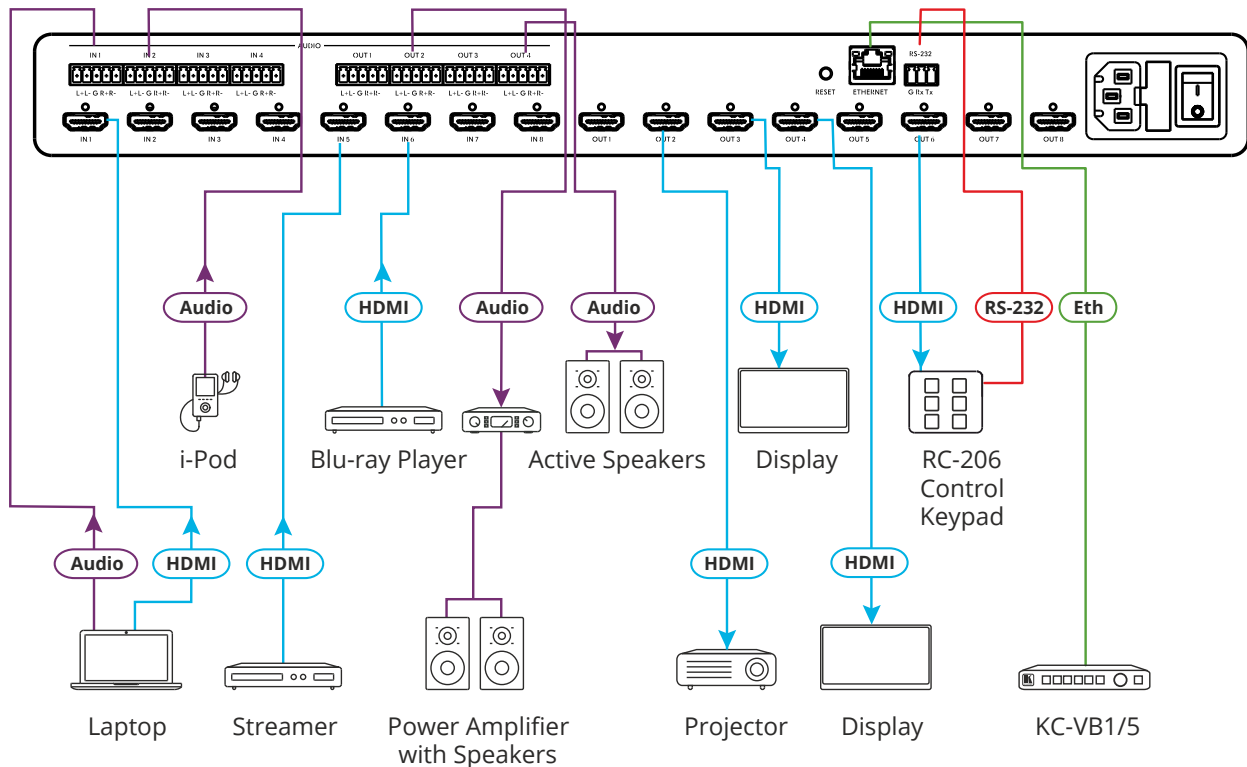

Figure 3: Connecting to the MTX3-88-HSA Rear Panel
To connect MTX3-88-HSA as illustrated in the example in Figure 3:
- The ETHERNET port (24) to a control device (in Figure 3, KC-VB 1/5).
- The RS-232 port (25) to a controlled device (in Figure 3, TV monitor).
6. Connect the power cord to the power connector (26) and to the mains electricity (not shown in Figure 3).